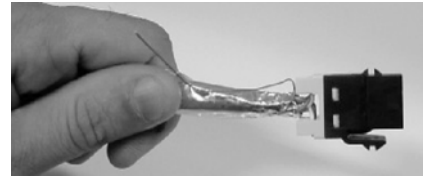

Figure 21
8. After removing the connector from the cable and inspecting it, place the foil so that the conductive side is facing outward and the foil is over the twisted pair conductors for 360°. Pull the foil toward the jack, form foil around twisted conductors then fold back toward the cable jacket. See Figure 20 and Figure 21. Inspect the jack to ensure the wires are bottomed in the housing slots and the wires were cut properly.